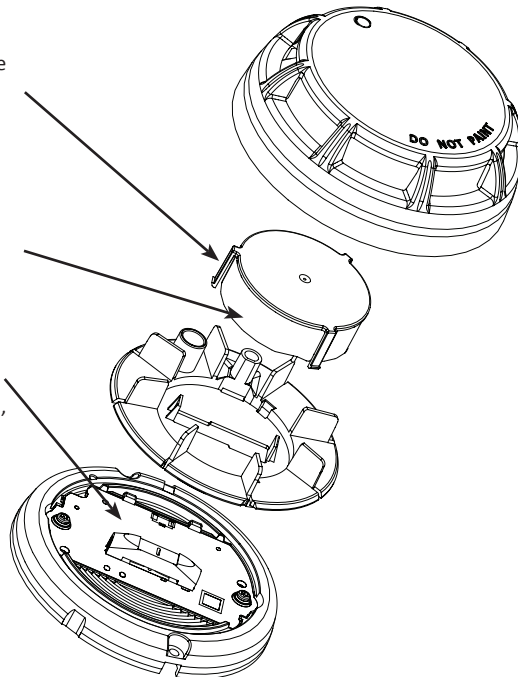

FIGURE 8: Remove Optic Cage from Detector for Cleaning (PAD100-PD only)
- Remove optic cage (FIGURE 8) from detector circuit board by gently gripping the sides of the optic cage base and lifting from detector circuit board.
- Remove optic cage from optic cage base, by gently squeezing the three connector arms and very gently lifting from optic cage base (FIGURE 8).